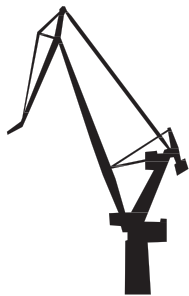

Figure P11.21 Crane unloading from container ships.
- 11-21.** A large crane shown in Fig. P11.21 unloads container ships that have hundreds of shipments weighing on average 4.5 tons, with a standard deviation of 0.56 tons. Assuming a normal distribution of shipments, what is the probability of a shipment having a load less than 6 tons?